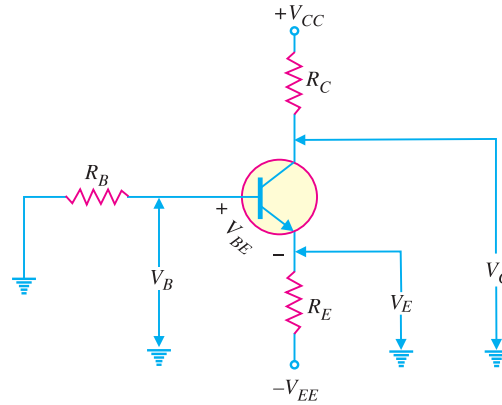

Fig. 9.17
**(ii) Collector-emitter voltage ( $V_{CE}$ ).** Fig. 9.17 shows the various voltages of the emitter bias circuit w.r.t. ground.